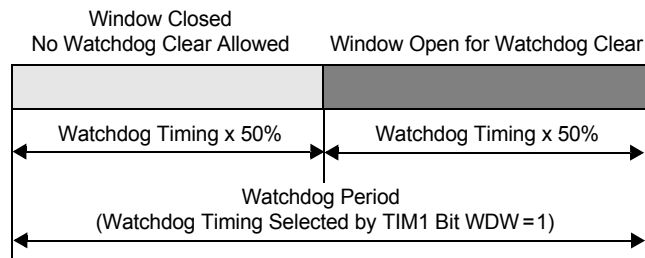
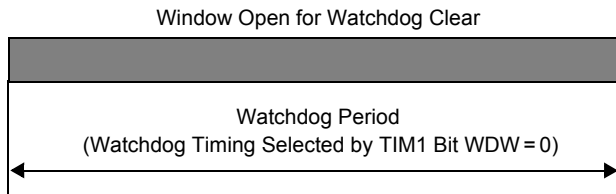

**Figure 28. Window Watchdog**
**Figure 29. Timeout Watchdog**
- TIM1—Controls the watchdog timing selection as well as either the watchdog window or the watchdog timeout option (Figure 28 and Figure 29, respectively). TIM1 is selected when bit D3 is 0 (Table 31). Watchdog timing characteristics are described in Table 32.